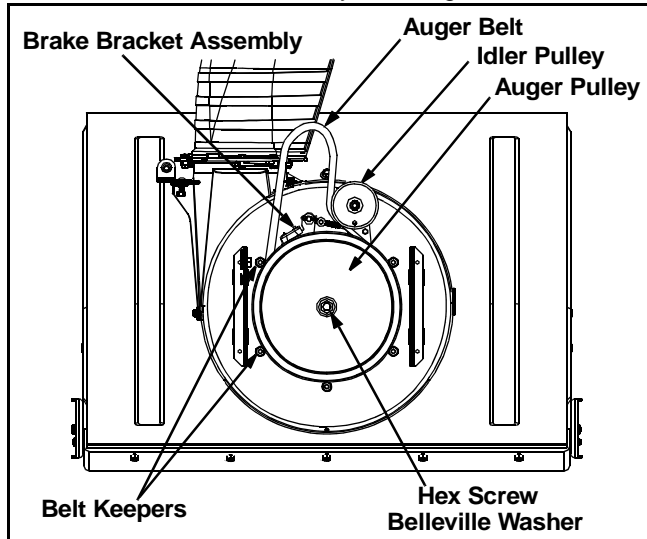

Figure 18
- Using a 1/2” wrench, remove the hex screw and belleville washer from the center of the pulley on the auger housing. Lift the brake bracket assembly out of the pulley groove and remove the pulley. Be careful not to lose the key. See Figure 18.